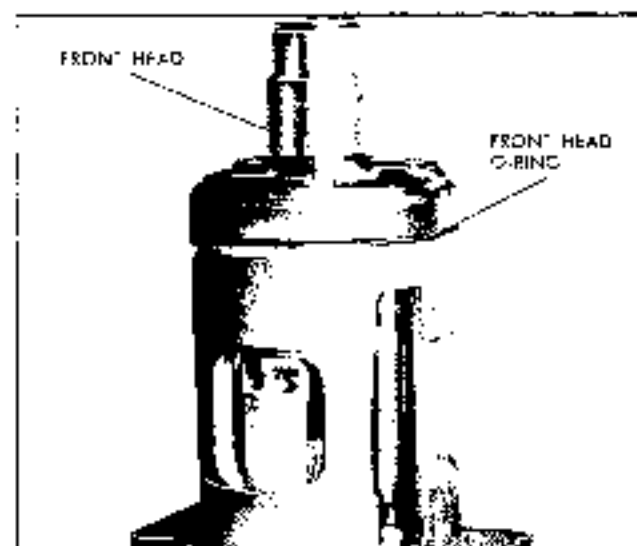

Fig. 1A-40 Installing Front Head Casting
8. Apply an ample amount of clean 52b viscosity Frigidaire oil around gasket groove at the lower edge of casting. Coat large diameter head to shell O-ring and assemble O-ring on shoulder of shell (cf. Fig. 1A-41).
9. Coat the inside machined surfaces of shell with clean 52b viscosity Frigidaire oil. Line up oil sump with oil intake tube hole and slide mechanism into shell. Maintain this alignment when lowering mechanism into place (Fig. 1A-41).